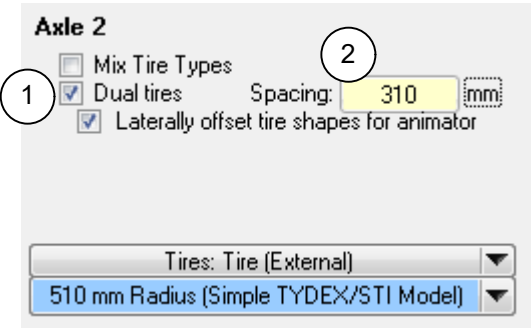

Figure 16. Selecting dual tires on TruckSim Tires screen.
TruckSim has a capability to define dual-tires which use two tires on each side of axle. As shown in Figure 16, if you check the box for Dual tires (1) specifying the spacing (2) between the tires on **Tires: Vehicle Unit with 2 Axles (3 Axles or 4 Axles)** screen, the VS Solvers call function `vs_sti_calc2` to calculate the total forces and moments from the dual tires at the center between the two tires on the axle.